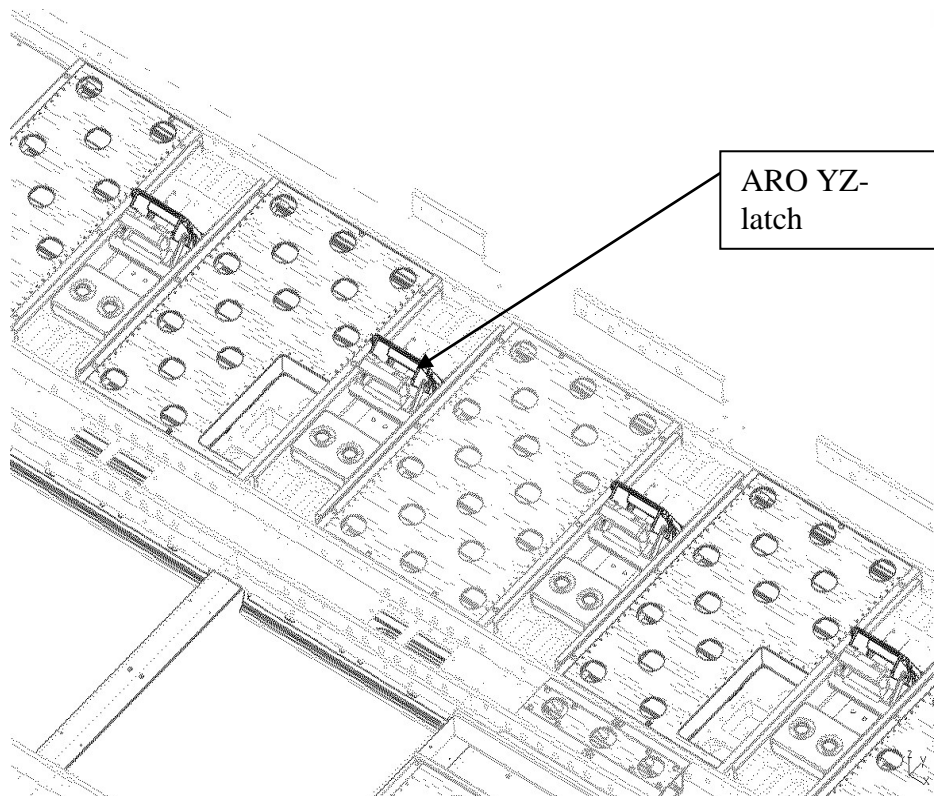

Figure 22. ARO YZ-latches in FWD CC
- LD3 at 44 position: set all latches in lower position except the number 9 (Figure 31) and the ARO latches number 10 (Figure 22) in door sill area.